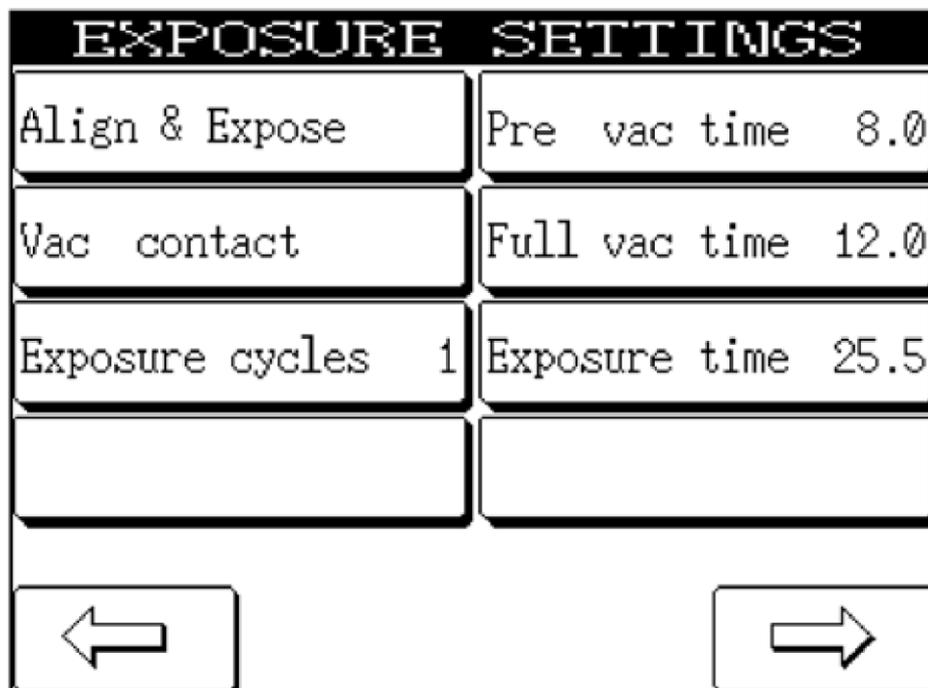

Fig. 5 Exposure Settings
1. To set the exposure values, from the main menu, press SETTINGS and then EXPOSURE SETTINGS. You can set the desired program and exposure parameters in the EXPOSURE SETTINGS menu, as shown in Fig. 5. The appearance of the EXPOSURE SETTINGS menu will depend on the options selected in that menu.